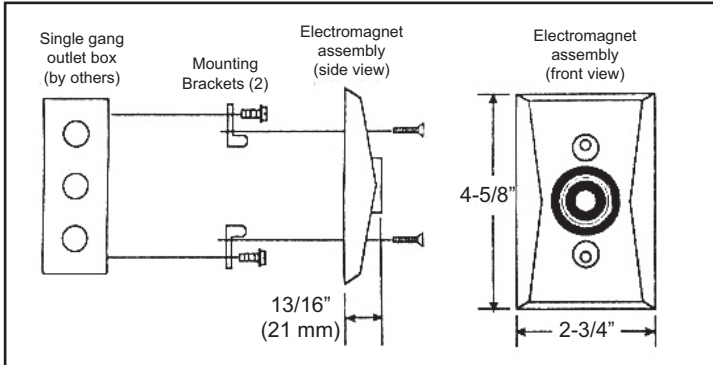

Figure 3. Mounting the Electromagnet Assembly
- Install the mounting brackets (2 pieces) in the outlet box with the field wiring below the bracket (Figure 3).
- Secure the electromagnet assembly to the mounting brackets with (2) #10-32 x 7/8" screws provided (Figure 3).